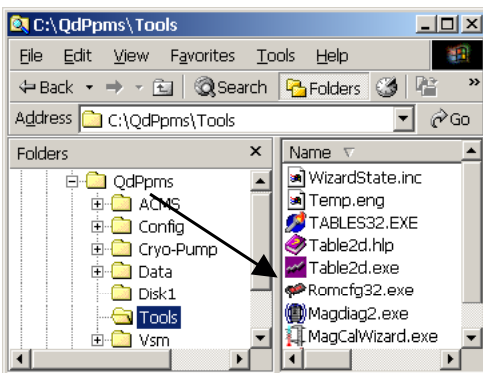
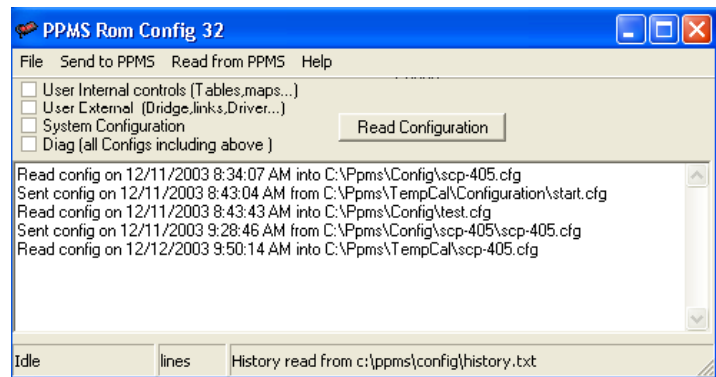

Figure 3. C:\QdPpms\Tools folder and Romcfg32.exe
Figure 4. Dialog for downloading *.cfg files to Model 6000
2. In the Tools folder, double-click on Romcfg32.exe, which is shown in Figure 3. The **PPMS Rom Config 32** dialog will appear (Figure 4).